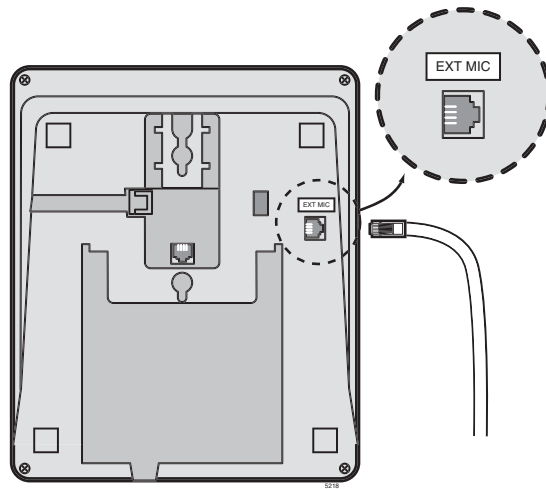

Figure 11-37 RFDM Plug on DKT2020-FDSP
1. Plug in the RFDM External Microphone to the bottom of the phone (see Figures 11-37 and 11-38).